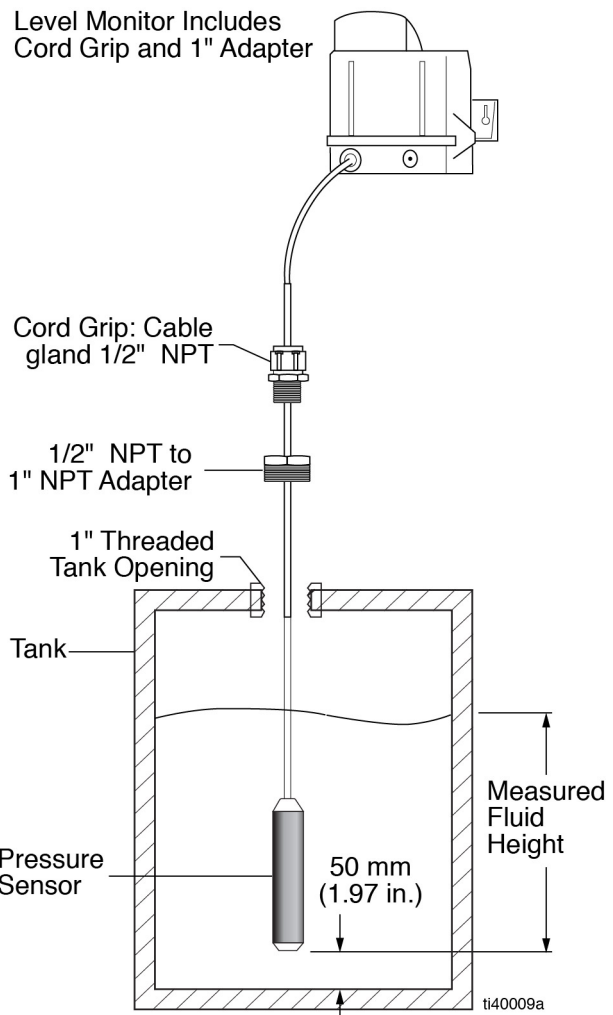

FIG. 6
- Position the pressure sensor so it is hanging downwards on the cable (FIG. 6).